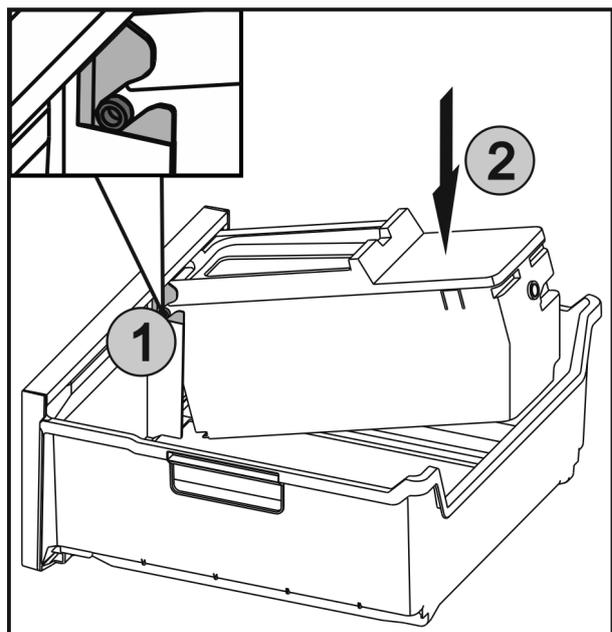

Fig. 40
- ▶ Push the axles Fig. 40 (1) on the EasyTwist-Ice into the guides and push the rear side Fig. 40 (2) until the lugs engage.